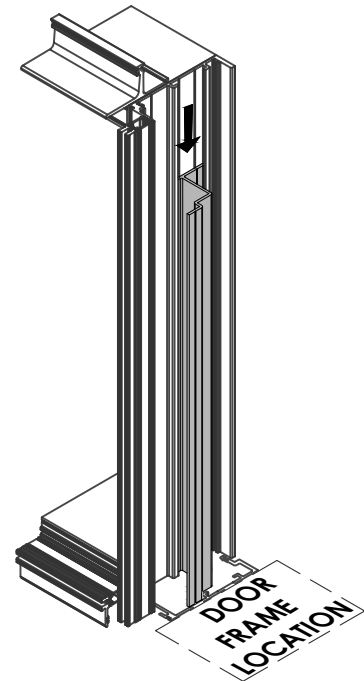

FIG. 1
- Pre-Insert pre E4297 into vertical extrusion. Ensure the side inserted into vertical member is positioned on the adjacent side of the door frame opening **See FIG. 1**